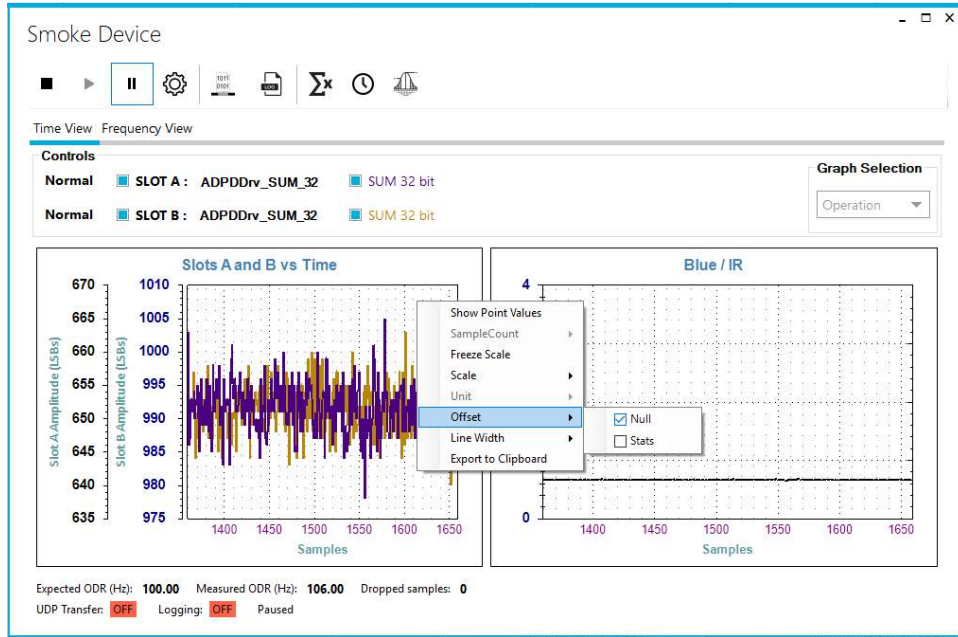

Figure 7. Null Background Response with the *Wavetool Evaluation Software*
To have a meaningful blue/infrared (IR) ratio when smoke is present in the chamber, null the background response with the null offset feature in the software. To access the null offset feature, hover the mouse pointer over the raw data plot and right click to open the pull-down menu shown in Figure 7. Select **Offset** and check off **Null** to null the background response to zero (see Figure 7).